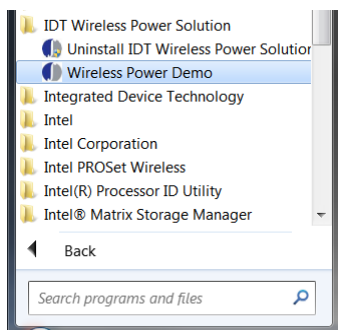

Figure 20. Starting the Graphical User Interface
5. Click Start >> All Programs >> Integrated Device Technology (Folder) >> Wireless Power Demo (Application Icon) to open the GUI for IDTP9036 Wireless Power Transmitter Demo software Fig 20.